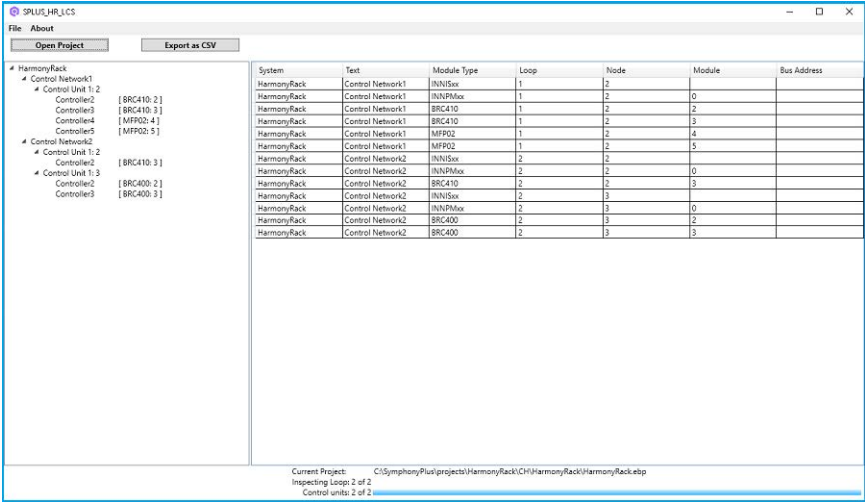

Figure 122. Export .CSV File
- c. The following window appears with a progress bar as highlighted in Figure 122, which indicates that the data collection process is in progress. Once the data collection process is completed. Click on **Export as CSV** button to generate a new LCS Input data file and save the file in PC.